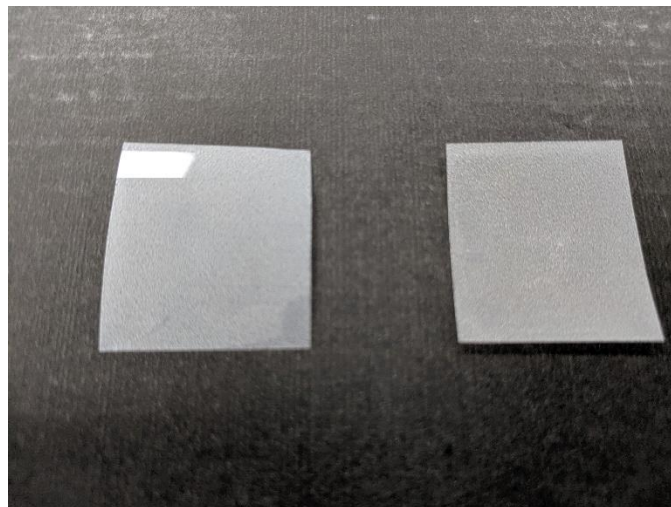

Figure 2: Glossy (Left) and Matte (Right) Sides of the Film
- Reference the directions of the Fujifilm Prescale to determine the orientation of the paper. Applicable to the 2 Film Types above, the matte sides of the film need to face each other for the film to correctly function. (See Figure 2)